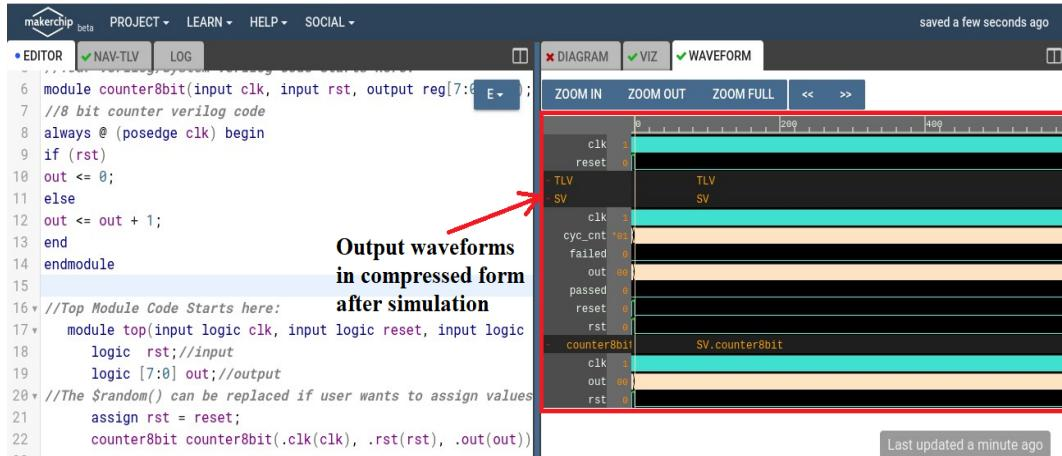
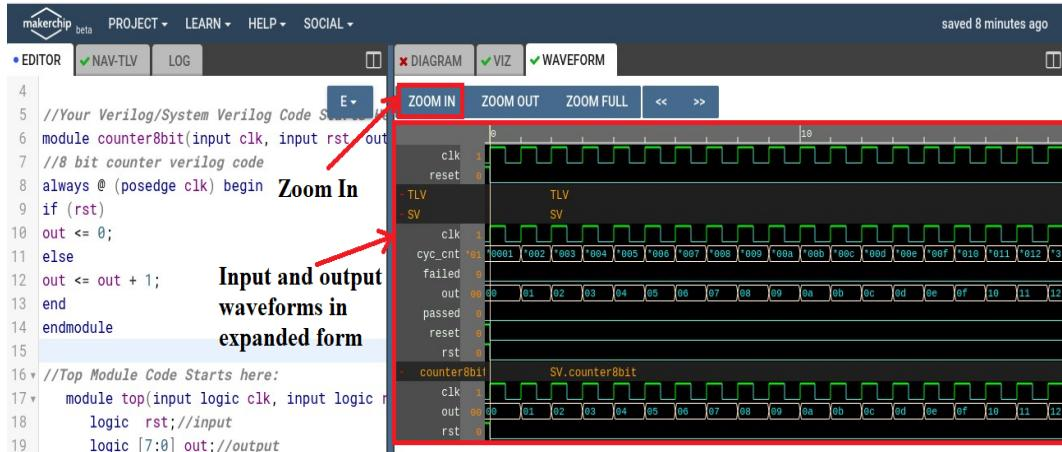

Figure 11.19: Output waveforms in compressed form of 8 bit Counter
Figure 11.20: Output waveforms in expanded form of 8 bit Counter
- Now click on the **Editor** tab and then click on **Compile/Sim** button in the editor as shown in Fig. 11.16, it will display the following waveform window as shown in Fig. 11.19. This means that the verilog code of 8 bit Counter is successfully
compiled. Kindly, note that in Fig. 11.19, inputs and output waveform are in the compressed form.
16. Fig. 11.20 shows the expanded view of inputs and output waveforms of 8 bit counter. The waveforms in Fig. 11.19 can be expanded by clicking on **Zoom In** button as shown in Fig. 11.20.